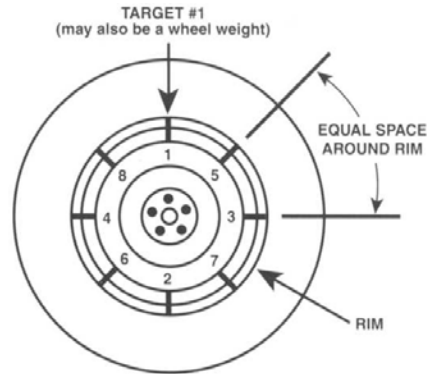

FIGURE 1
**STEP 4** - After the rim is clean, install targets as indicated in **FIGURE 1**.